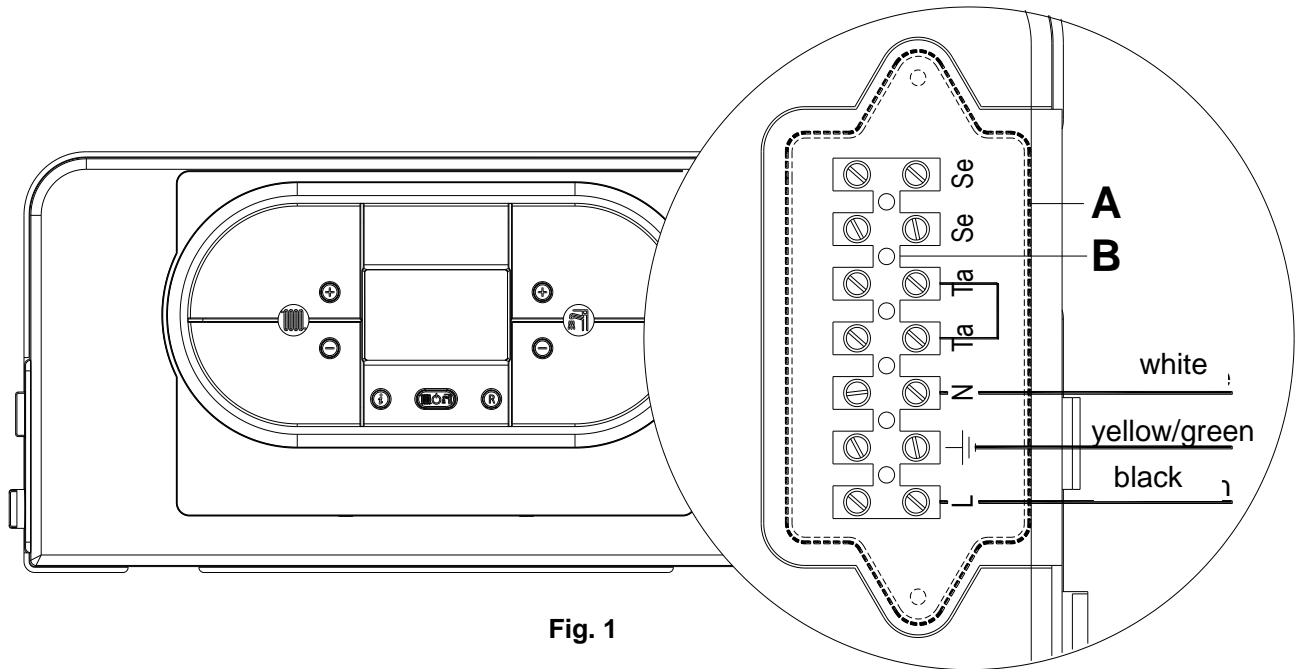

Fig. 1
- c. Loosen the screws and remove plate A (see fig. 1).